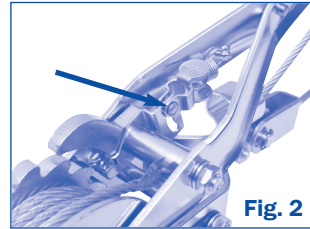

Fig. 2
- Free the drive pawl by sliding the pawl spring to the top position, shown in Fig. 2.
- Release the tension by sliding the pawl spring to the top position, shown in Fig. 2.